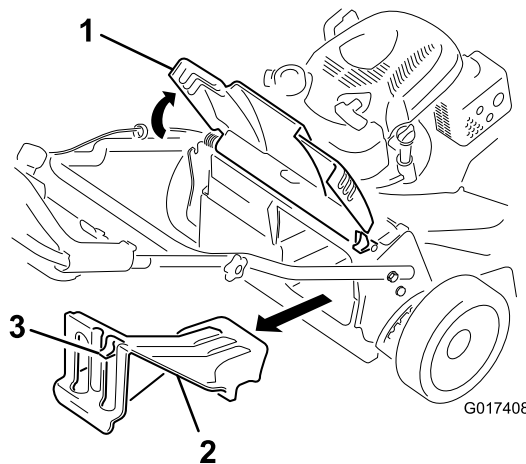

Figure 25
- Raise and hold up the rear door (Figure 25).
- Remove the rear-discharge plug by pulling down on the latch with your thumb and pulling the plug out from the machine (Figure 25).